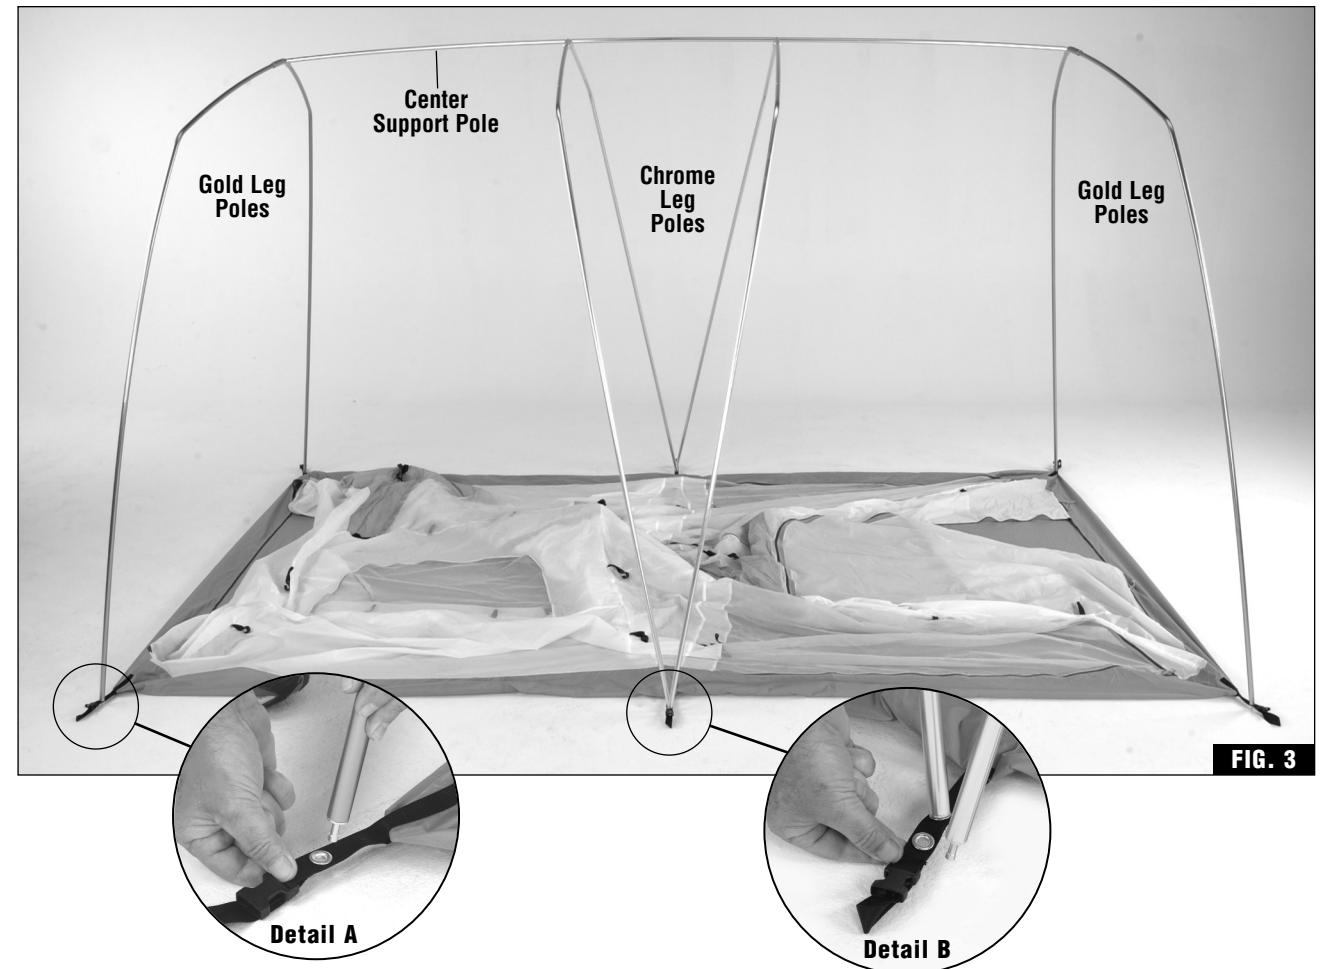

FIG. 3
3. Insert curved end of Gold Leg Poles into gold-colored fittings on Center Support Pole; then insert curved end of Chrome Center Poles into chrome-colored fittings on Center Support Pole. (Fig. 3)